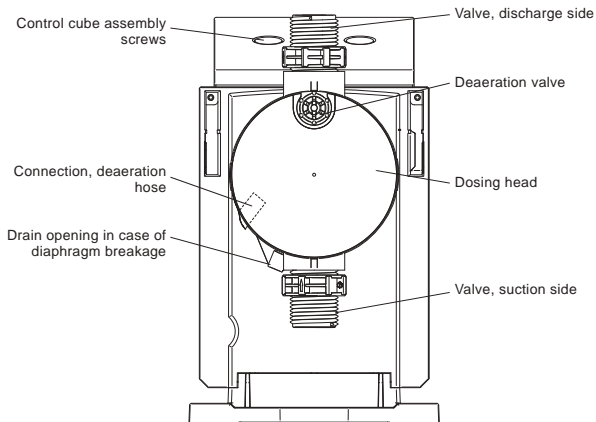
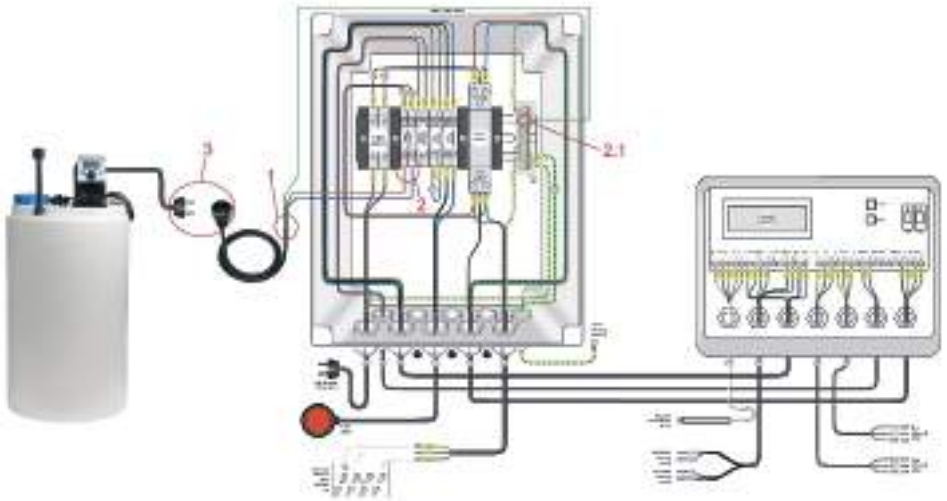

Fig. 2 - Rear view of pump
Fig. 6 – Connection diagram to commercial systems (MO6500...36000 with OC5000 controller) of reverse osmosis (constant dosing)
- 2) Connect the injector (**pos. 1**) to the pipeline and connect it to the appropriate nozzle on the discharge side of the dosing pump (**see Fig. 2**).
- 3) Insert the suction hose (pos. 8) into the tank and connect it to the suction tip (**pos. 11**).
- 4) Connect the power cord of the dosing pump to the electrical panel of the reverse osmosis system, as shown in **Fig. 6 – 8**.